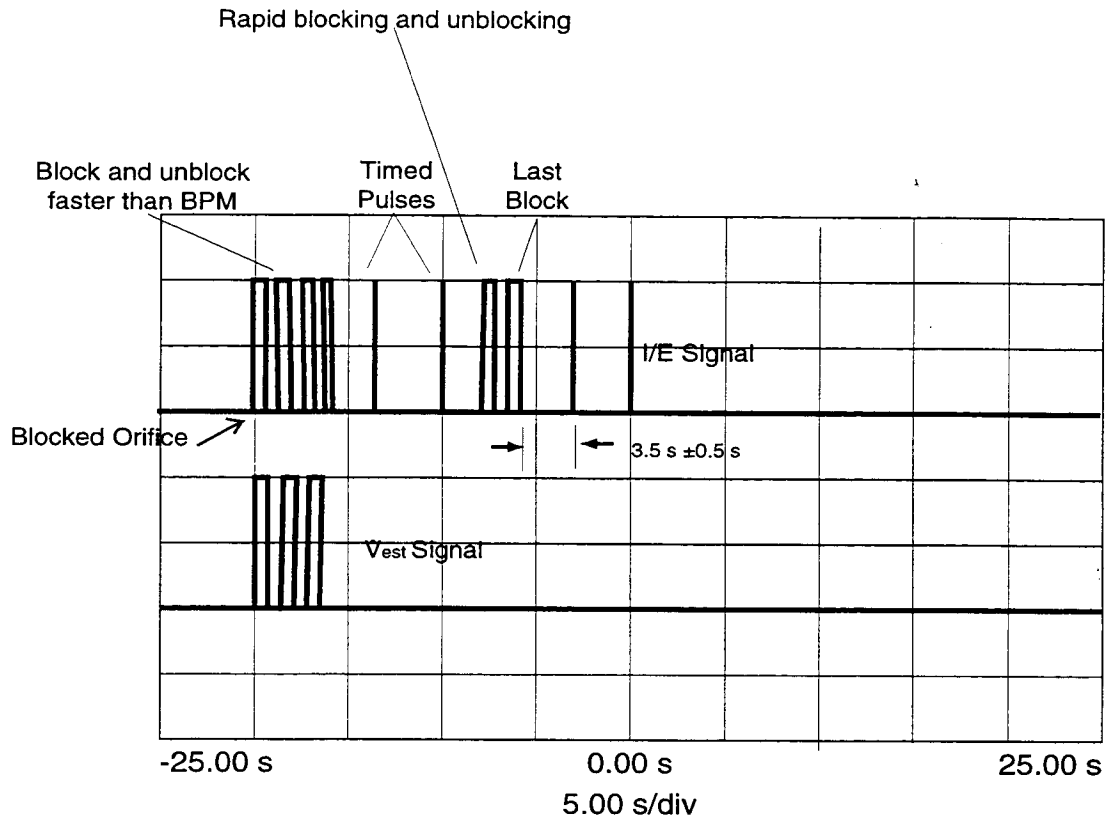

Figure 7-9. Spontaneous/Timed Mode.
- Step 2 Block and hold the orifice closed and note that the unit automatically cycles. See Figure 7-9 for oscilloscope traces. Observe that a spike occurs in the I/E state signal when the timed pulse occurs and that the Spontaneous/Timed LED illuminates.
- Step 7 Store the display on the oscilloscope when it looks like Figure 7-9. Measure the distance between 2 timed pulses (spikes). The time should be $3.55 \pm 0.5s$.